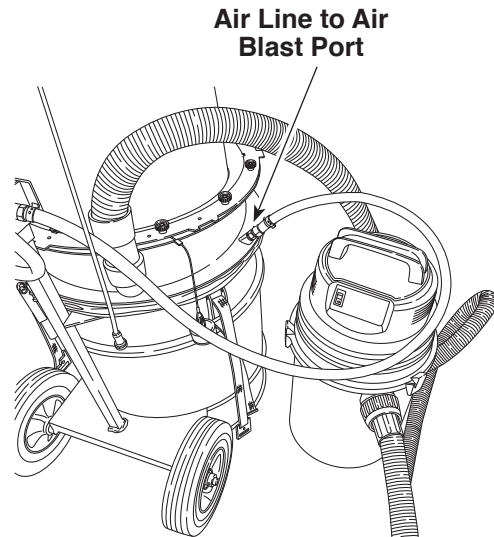

Figure 19
3. Attach the air line, that was removed from the fixture, to the air blast port on the intermediate base. See Figure 19.